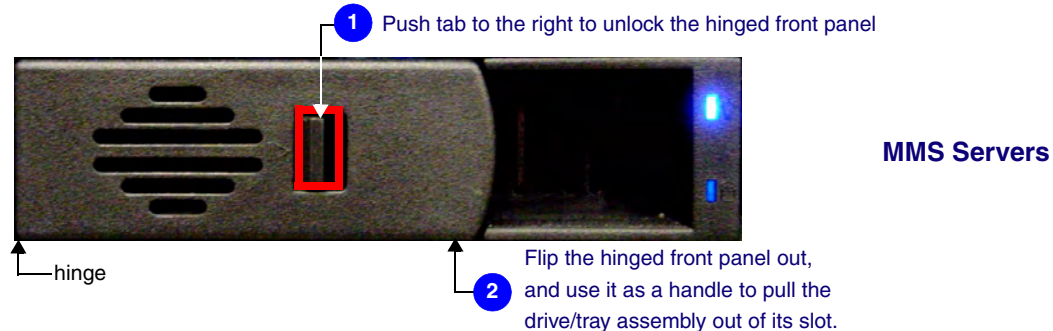

FIG. 47 Removable drive/tray assembly - MMS Servers (front panel)
2. Remove the damaged HDD. Each HDD is mounted in a tray that slides in and out of the server. To remove the drive/tray assembly (FIG. 47):
1. Lower the faceplate on the front panel of the server, to access the HDDs (FIG. 47).